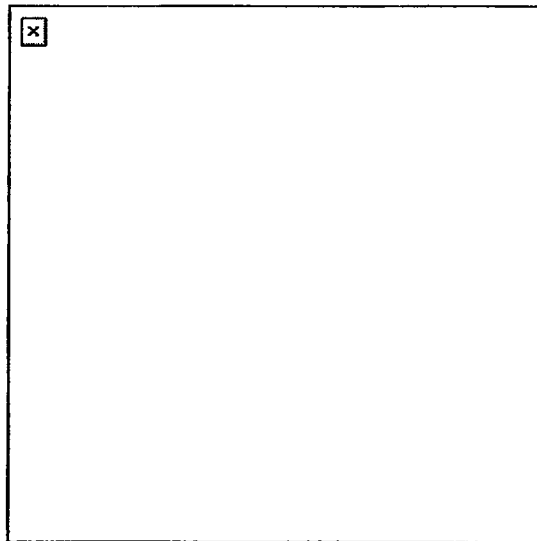

Figure 1. MK 19 machine gun sights.
1. Prepare the sights for zeroing (Figure 1).